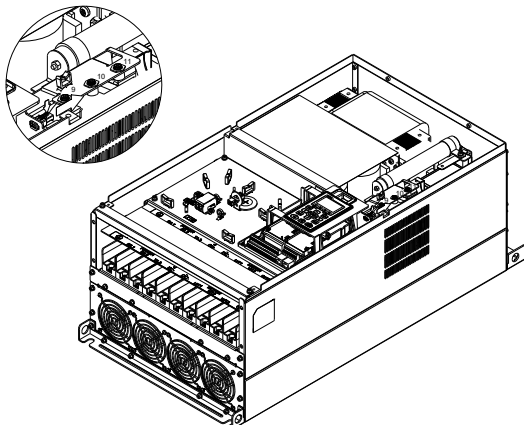
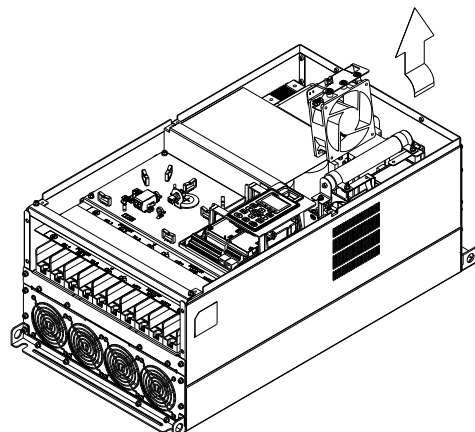

Figure 3
Figure 4
(3) Loosen the screws and remove the fan. (figure 3 and figure 4)